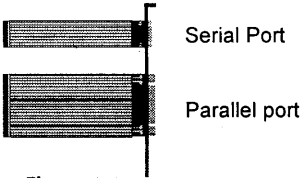

Figure 1-1
- 9-pin serial port & 25-pin parallel port ribbon cable with bracket x 1 (Figure 1-1)